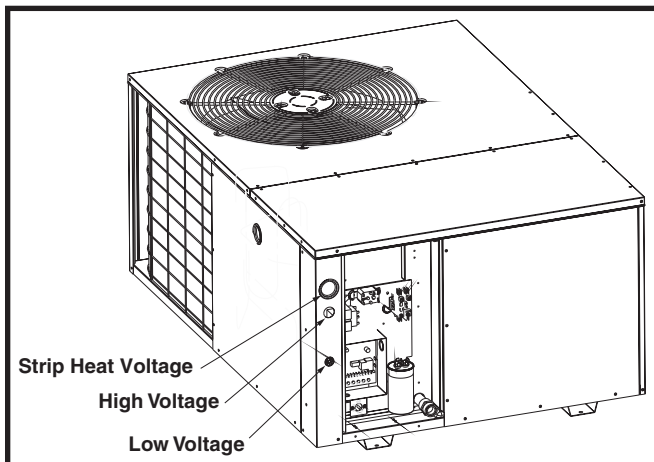

Figure 7. Power Entry
- Provide power supply for the unit in accordance with the unit wiring diagram, and the unit rating plate. Connect the line-voltage leads to the terminals on the contactor inside the control compartment. Extend leads through power wiring hole. See Figure 7. Connect **L1 & L2** directly to the contactor.